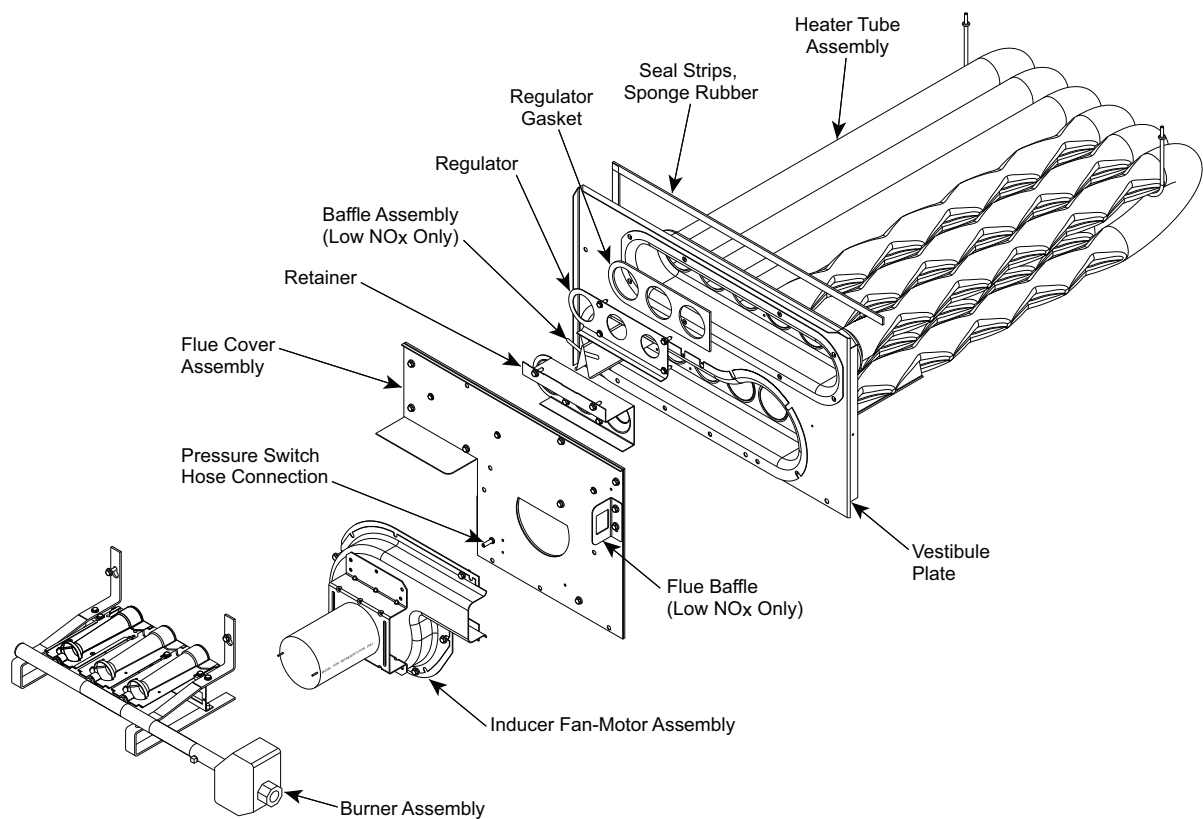

Fig. 51 — Heat Exchanger Assembly
1. Remove the combustion blower wheel and motor assembly according to directions in Combustion-Air Blower section. See Fig. 51.
2. Remove the 7 screws attaching the induced-draft motor housing to the vestibule plate. (See Fig. 51.)
9. Remove the 2 screws attaching the burner rack to the vestibule plate (see Fig. 51).
10. Remove the pressure switch hose from the connection on the flue cover assembly (see Fig. 51).
14. Separate the following from the heat exchanger: inducer fan-motor assembly, flue cover assembly, retainer, regulator, regulator gasket, and if a Low NOx unit, also remove the baffle assembly. See Fig. 51.